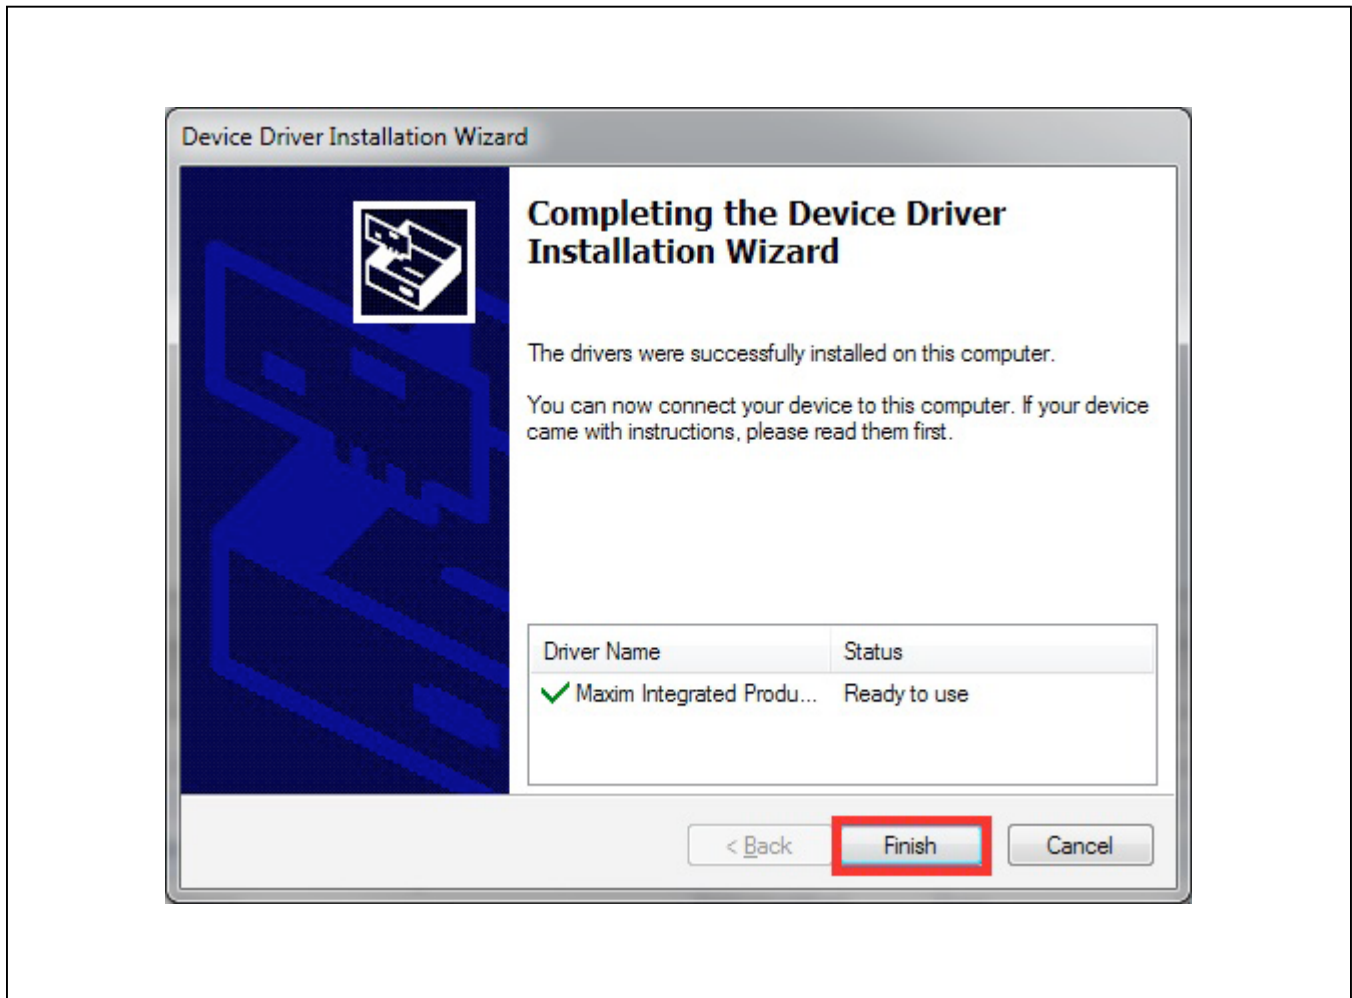

Figure 8. Device Driver Installation Finished
- 9) Click on **Finish** to close the final window and confirm the driver is installed correctly (Figure 8).